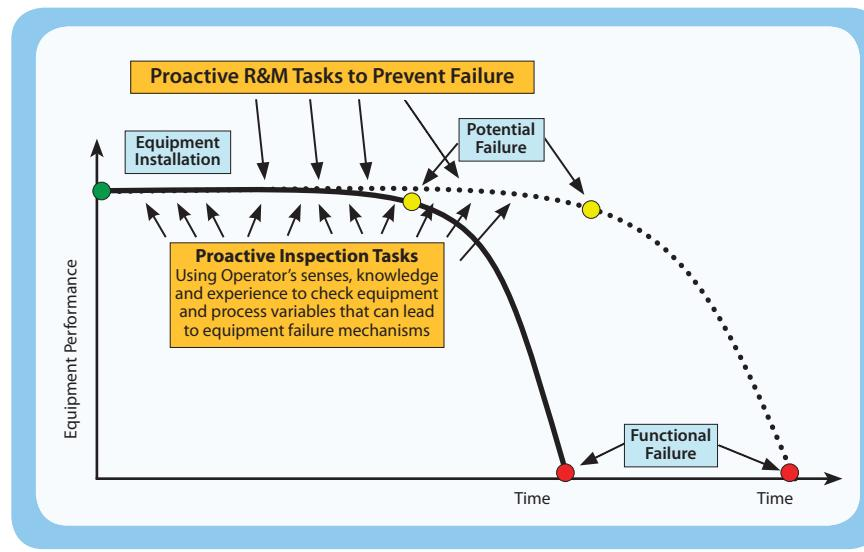

Figure 2 - Extending the IPF Curve with Operator Inspection Tasks.
potential failure point (P) being reached. The resulting actions prevent equipment damage and lengthen the operating life of the equipment by extending the IPF curve to the right as shown in Figure 2.